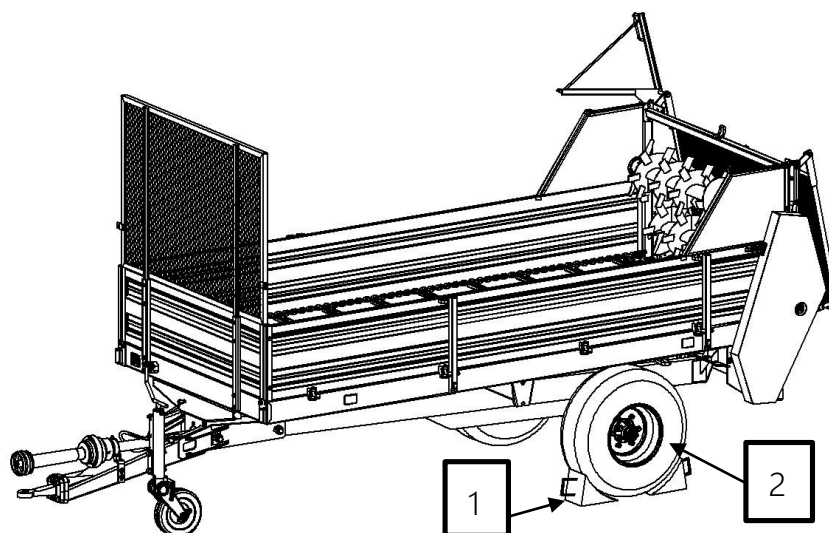

Figure 3. The way of placing the chocks.
- It is forbidden to park on the slopes with a loaded and unsecured machine. Securing is based on pulling the parking brake and laying chocks under the wheels. The chocks (item 1) should be placed only under a wheel (item 2) on one side of the machine (one in front of the wheel, one to the back of the wheel – fig. 3).